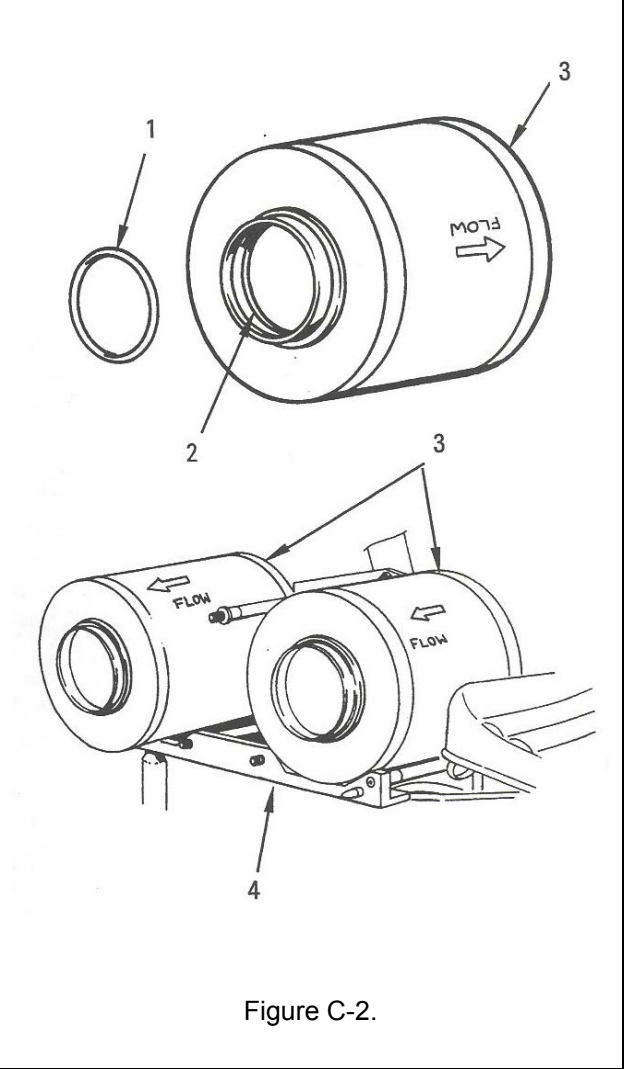

Figure C-2.
1. Inspect for seal (1) inside of M48A1 filter (2) (see figure C-2).
2. Position each filter (3) on support (4). Position filter label on top to see over manifold.